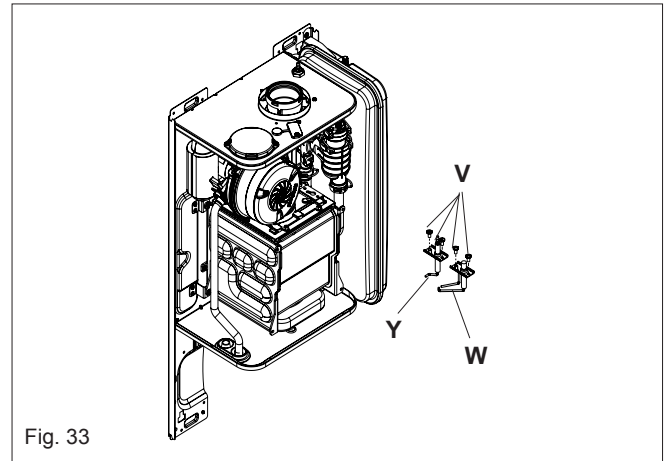
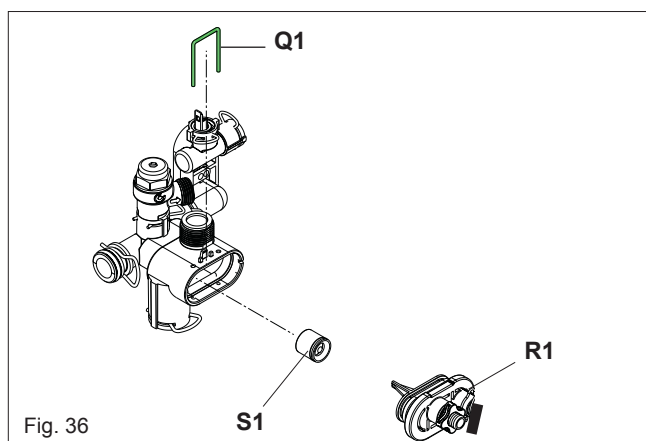

Fig. 33
Fig. 36
6.13 ELECTRODES (fig. 33)
6.17 AUTOMATIC BY-PAS (fig. 36)
Isolate the appliance from the electrical supply and remove the appliance casing as described in 4.7.1, to gain access to the printed circuit board, locate and open the closing plug on the dash board (L2), Restore the electrical supply to the boiler and switch the boiler to the OFF mode. locate and press the CO button (see fig. 36 pos. SW1). Press the button the number of times according to the function requirement as par 7.3.1. Set the flue gas analyser to read CO₂ and insert the probe into the flue analysis test point (Y1-Z1 fig. 33).